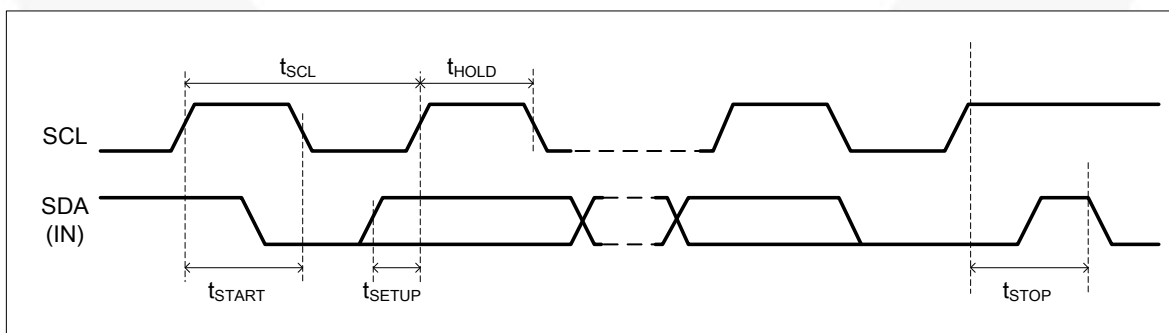

Figure 8. I²C interface Timing Diagram
10. I²C timing diagram as Figure 8.